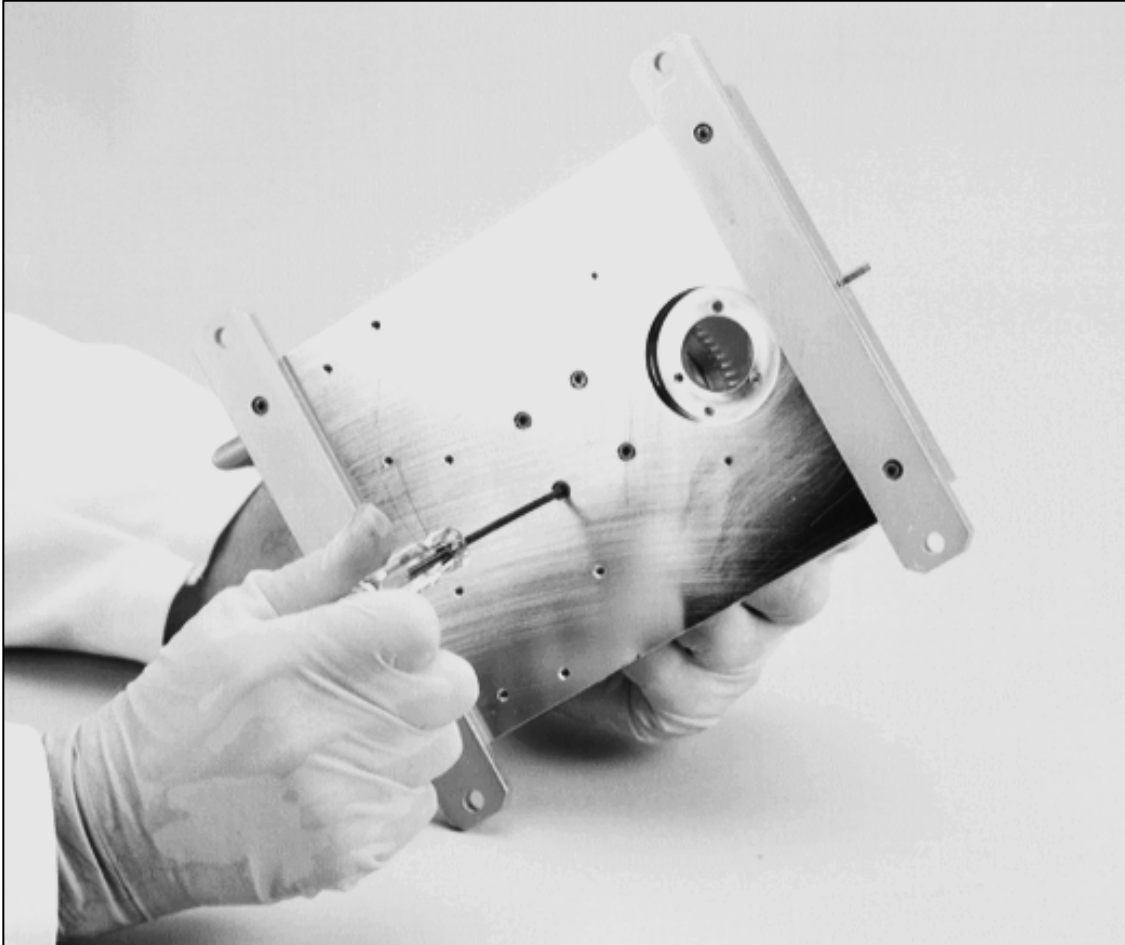

Figure 5-13. Detaching the Pivot Shaft from the Base Plate
Step 18: Holding the remainder of the source as shown in Figure 5-13, remove the four 5-32 × 3/8-in. screws that secure the pivot shaft to the base plate. Then you can remove the bearing housing assembly (which contains the pivot shaft) from the source.